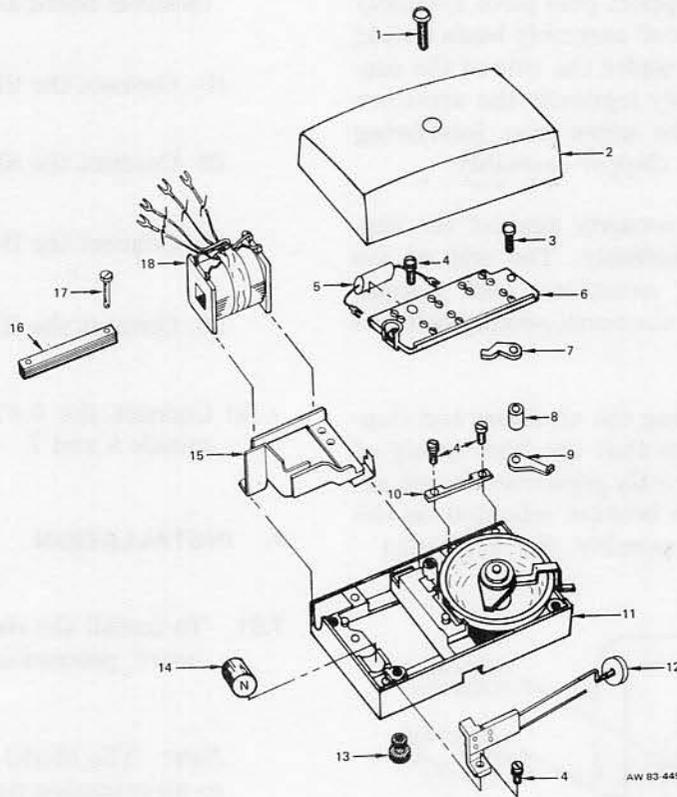

Figure 2: Model 136 Ringer, Exploded View
2.01 The Model 136 ringer (see Figure 2) is a single-gong, straight-line, biased-type extension ringer equipped with a mechanical volume control and assembled on a die-cast frame with a beige-colored, molded-plastic cover. A laminated soft-iron core holds the double-wound coil in place. The ringer is designed to ring at 20 or 30 Hz.